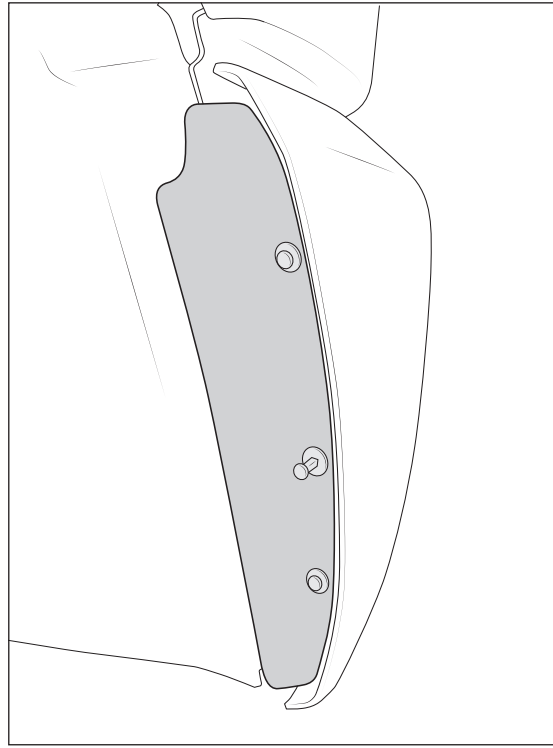

Figure 35
- Install the fender liner retainer plates using three supplied 3/8" push pin fasteners per side (fig. 35).